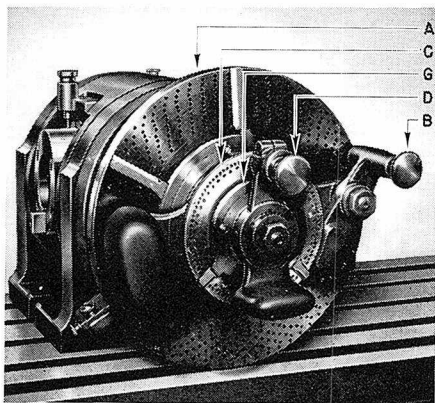

Figure 64A
Using crank "B" on the large plate (Figure 64A).
1. Consulting the "Degree" table on page 107, set the sector on index plate "A" (Figure 64A) for 18 spaces on the 54-hole circle.
1. Index large crank "B" (Figure 64A) an amount equal to the sector setting, namely—18 spaces.